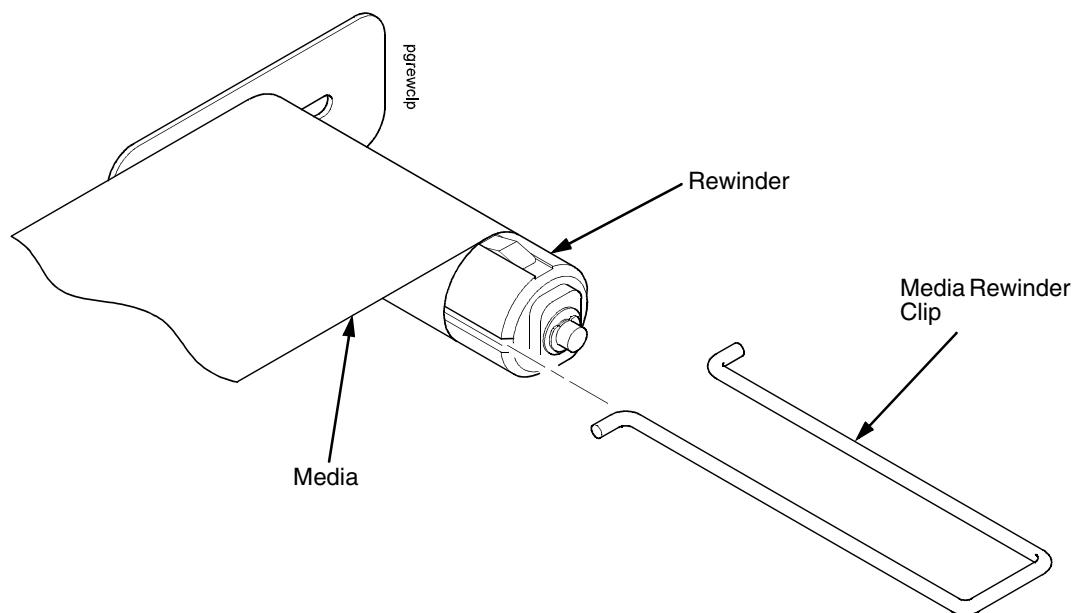

Figure 10. Securing Media on the Rewinder
7. Insert the media rewriter clip to secure the media. See Figure 10.